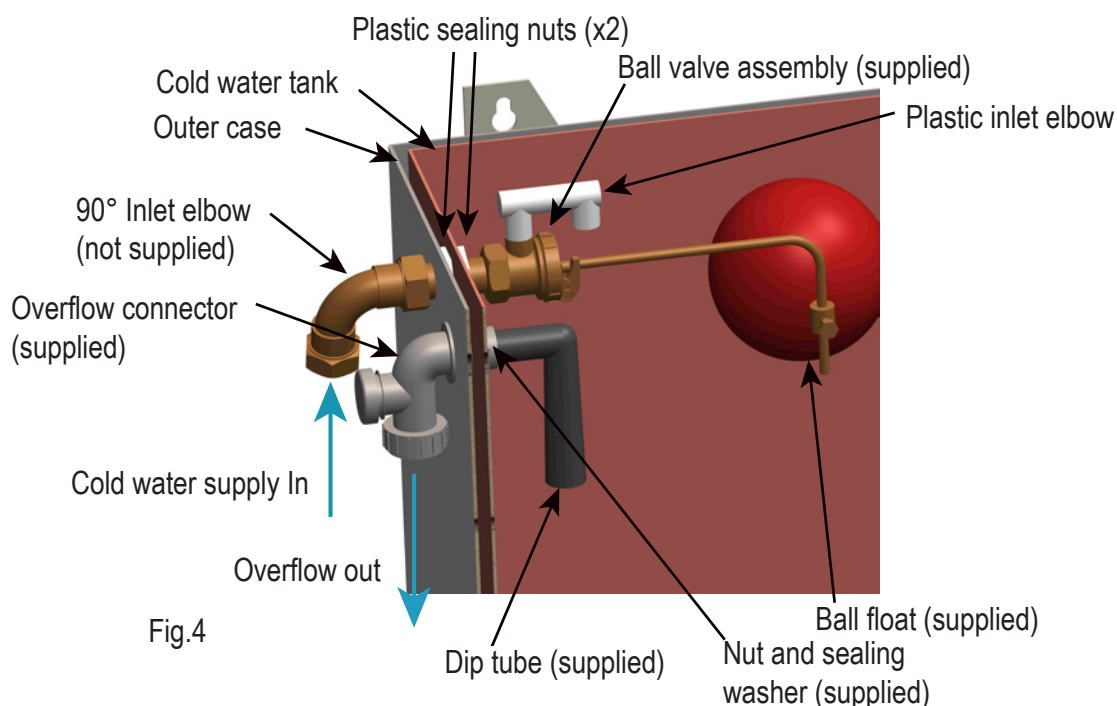

Fig.4
- The arrangement of the remaining supplied components should be fitted and conform to Fig. 4.
- The shorter end of the dip tube is pushed firmly into the overflow connector, with the longer section facing downwards as shown in Fig.4.
- Fit the ball float to the ball valve assembly as in Fig.4
- The ball valve assembly is fitted by inserting the threaded section through the Ø22mm hole and securing this in place using the sealing nuts (x 2) either side of the tank side as shown in Fig.4 and then attaching a 90° 3/4" to 15mm reducer (not supplied) on the external side of the outer casing.